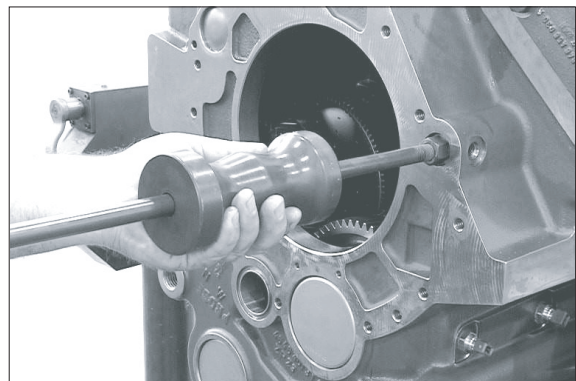
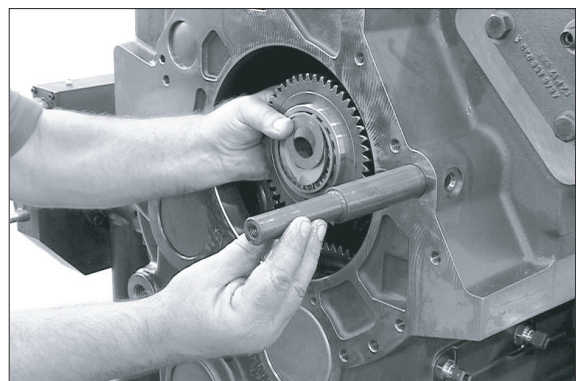

Figure 33
Figure 34
(9) By means of the striker expel the pin from the housing bore (figure 33) and remove the complete spur gear (figure 34).